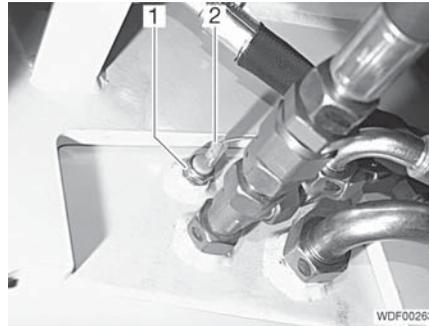
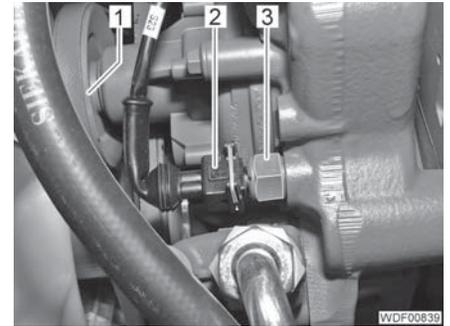

Fig. 45 Temperature sensor on the hydraulic fluid tank
Fig. 46 Temperature sensor on the engine (Deutz)
- ▷ The temperature sensors in the hydraulic fluid tank (Fig. 45) and in the engine (Fig. 46) switch on the indicator lamp at 110 °C.
- ▷ The temperature sensor on the Deutz engine is mounted next to the V-belt pulley (Fig. 46,1).
- Remove the plug (Fig. 45,2).
- When the warning lamp goes out, replace the temperature sensor (Fig. 45,1) (see Part 4, "Replacing the temperature sensor of the hydraulic fluid tank" section).
- Remove the plug (Fig. 46,2).
- When the warning lamp goes out, replace the temperature sensor (Fig. 46,3) (see Part 4, "Replacing the engine temperature sensor" section).